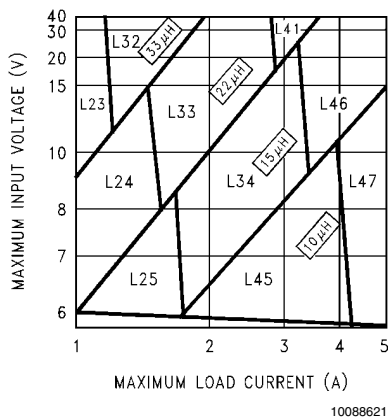
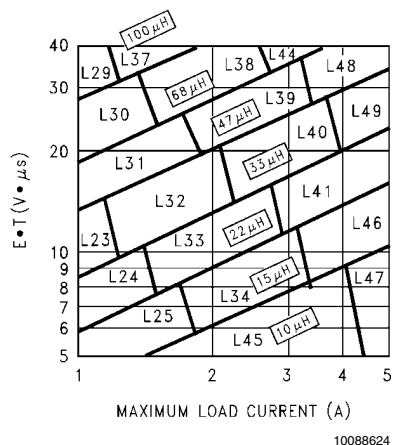

FIGURE 3. LM2678-3.3
FIGURE 6. LM2678-ADJ
Step 3: Determine the inductor required by using one of the four nomographs, Figure 3 through Figure 6. Table 1 provides a specific manufacturer and part number for the inductor.
Step 5: Determine an input capacitor from Table 4 for fixed output voltage applications. Use Table 2 to find the specific capacitor type. For adjustable output circuits select a capacitor from Table 2 with a sufficient working voltage (WV) rating greater than $V_{in\ max}$, and an rms current rating greater than one-half the maximum load current (2 or more capacitors in parallel may be required).
Step 3: Use the nomograph for the 3.3V device, Figure 3. The intersection of the 16V horizontal line ($V_{in\ max}$) and the 4A vertical line ($I_{load\ max}$) indicates that L46, a 15µH inductor, is required.
Step 3: To use the nomograph for the adjustable device, Figure 6, requires a calculation of the inductor Volt•microsecond constant ($E \cdot T$ expressed in $V \cdot \mu S$) from the following formula:
Using Figure 6, the intersection of $27V \cdot \mu s$ horizontally and the 3.5A vertical line ($I_{load} \max$) indicates that L48, a 47 μH inductor, or L49, a 33 μH inductor could be used. Either inductor will be suitable, but for this example selecting the larger inductance will result in lower ripple current.
Figure 6, selects an inductance of 22 μH or less, Table 6 does not provide an output capacitor solution. With these conditions the number of output capacitors required for stable operation becomes impractical. It is recommended to use either a 33 μH or 47 μH inductor and the output capacitors from Table 6.